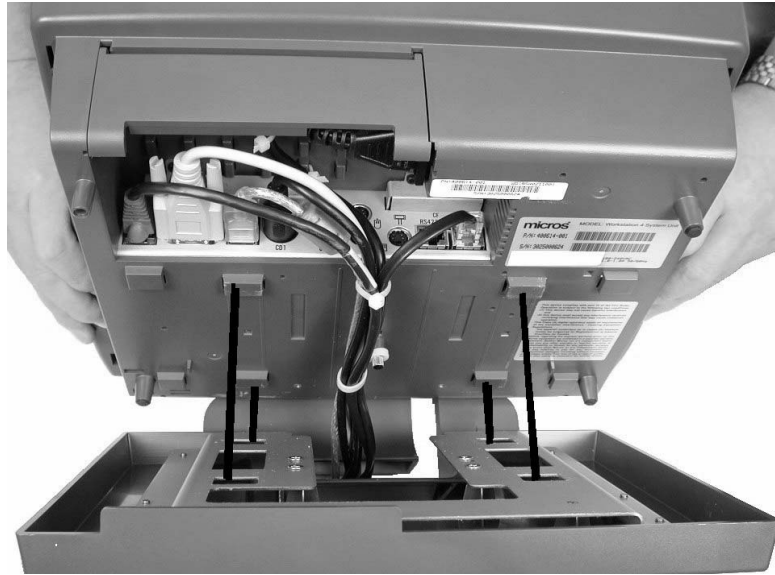

Figure 3-4: Attaching the KWS4 to the Adjustable Stand
6. Line up the four plastic hooks on the workstation with the four rectangular holes on the stand bracket and place the unit as shown in Figure 3-4. The workstation will slide down and lock into place.